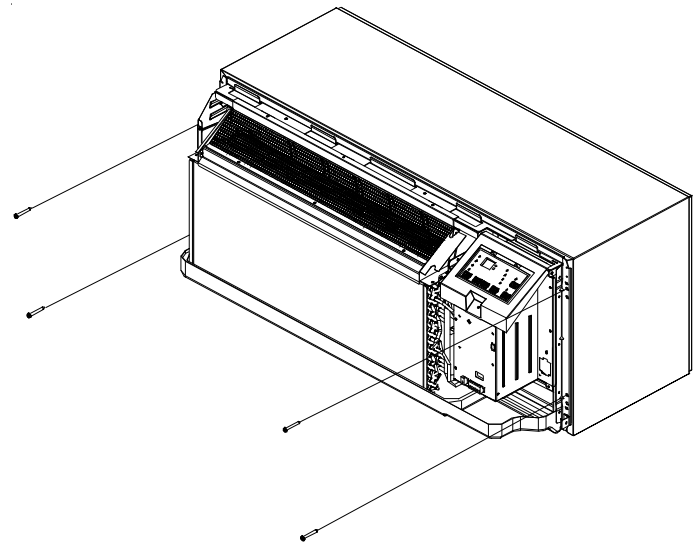

Figure 9
5. Secure with the four supplied screws through the unit's flange holes. See Figure 9.